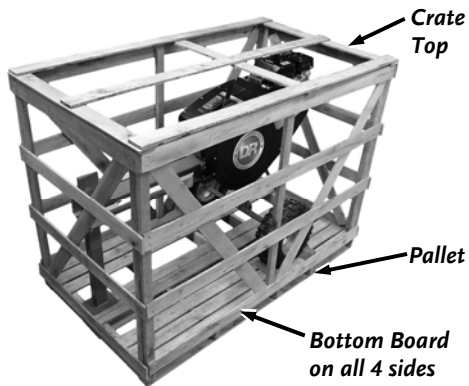

Figure 2
2. Pry the bottom Crate Boards away from the Pallet using a Pry Bar and Hammer (Figure 2).